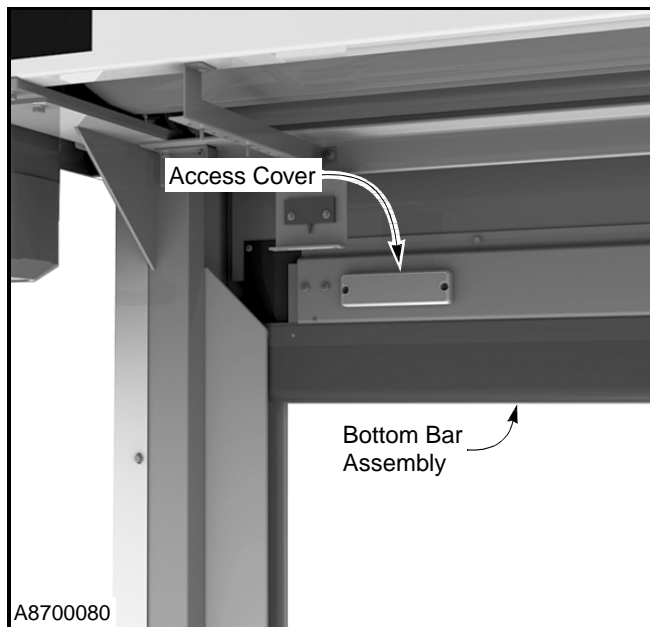

Figure 33
1. The reversing edge switch is located inside the bottom bar assembly, on the end opposite the drive motor. To inspect and/or adjust the switch, remove the access cover from the face of the bottom bar assembly. (See Figure 33)